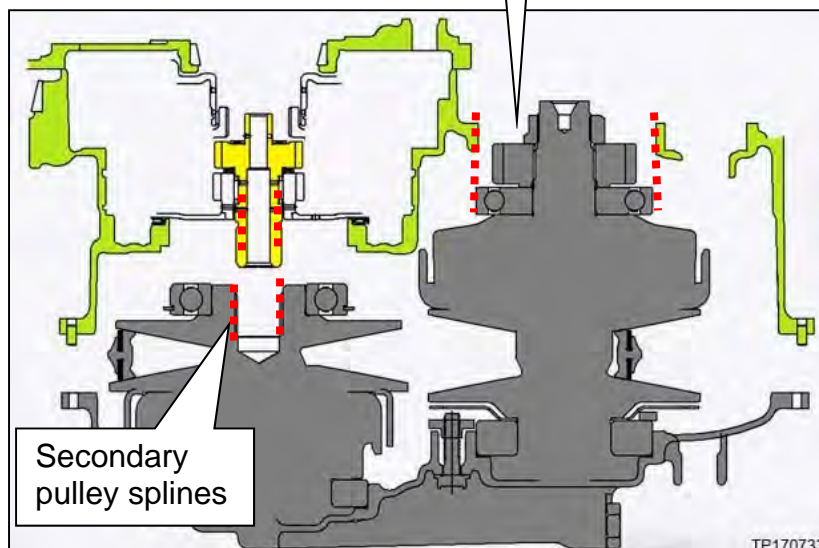

Figure 158
**HINT:** This will allow the splines of the secondary pulley and the planetary carrier plate to align. (Figure 158).